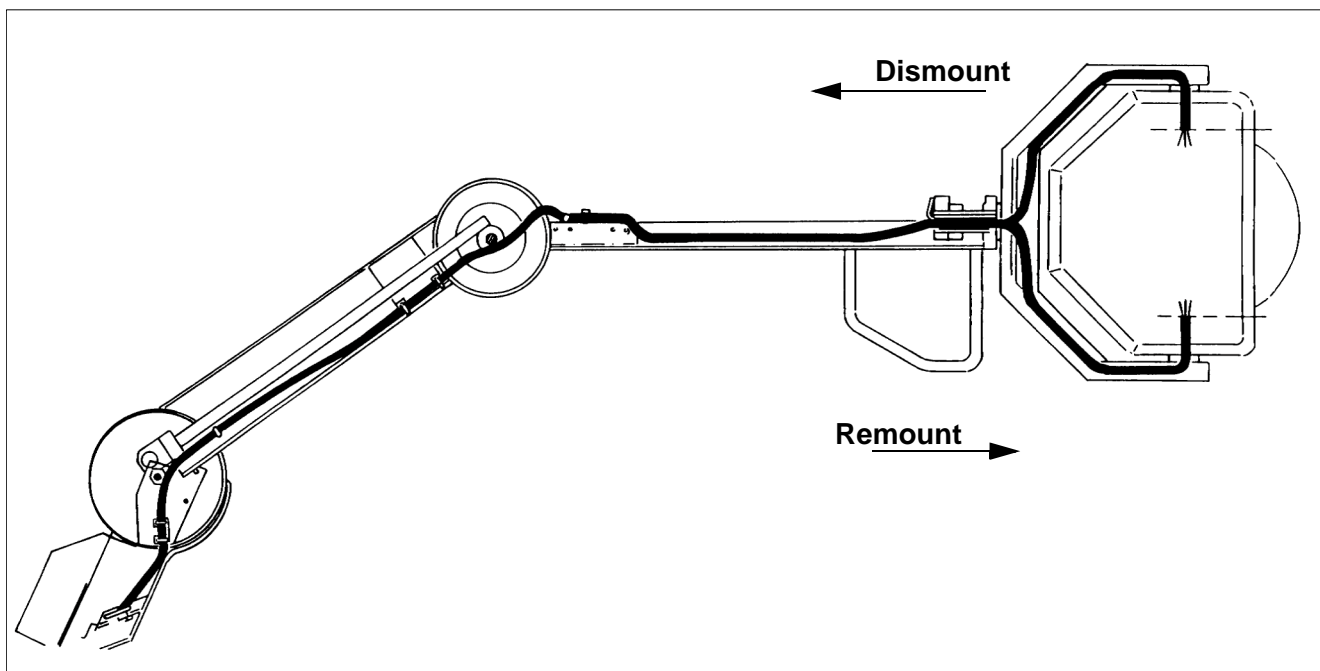

Fig. 20
- Disconnect the chassis connections and remove the cables (Fig. 20).